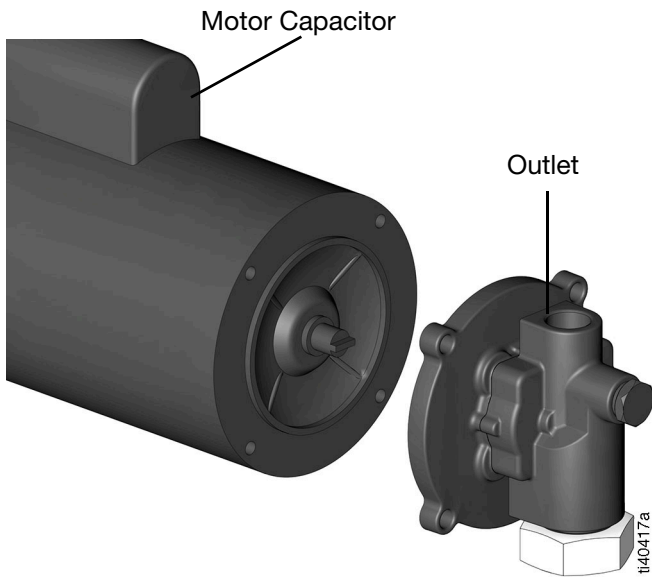

FIG. 15
6. The pump outlet should face up and the motor capacitor and the outlet should both be on top (FIG. 15).